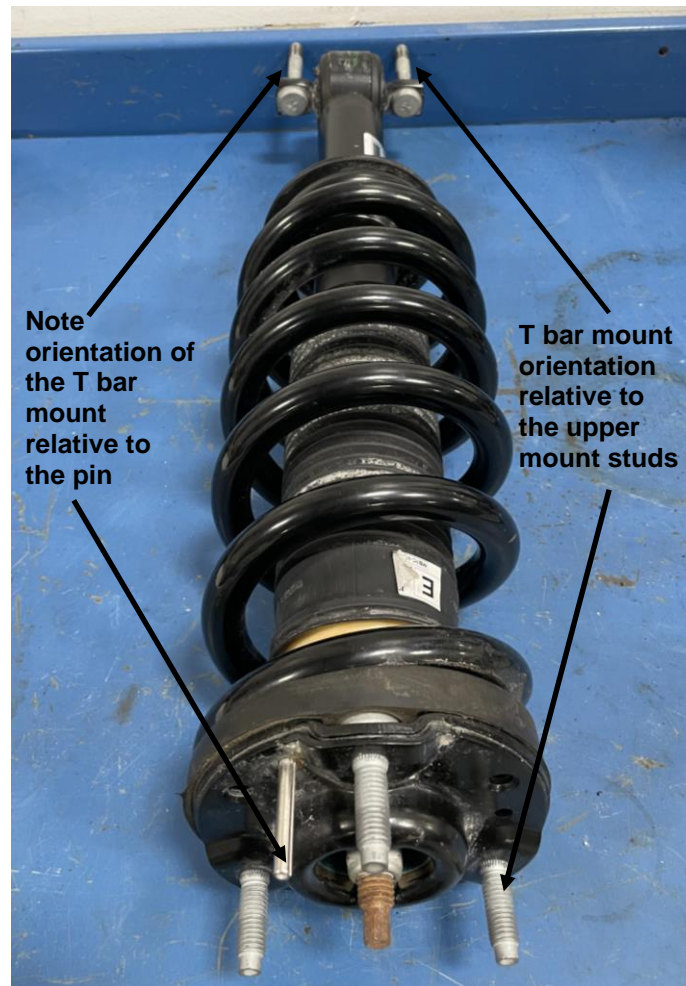

Figure 1: OEM T Bar/spring clocking
- B. Note the clocking of the lower T bar mount relative to the studs and pin on the upper mount as shown in Figure 1 (important for reassembly).
- F. Using an appropriate spring compressor, compress the appropriate spring and assemble it with the new Bilstein shock. **For 6100s, use the OEM coil spring. For 6112s, use the Bilstein supplied coil spring.** Ensure that the coil spring is installed in the direction shown only. Refer to Figure 1.
- I. Rotate the shock so the lower T bar mount is aligned with the upper mount studs as noted in step B and shown in Figure 1.